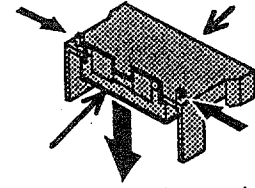

Figure 1
- 2) Remove the covers by pushing the picks of sockets (as shown by Figure 1).